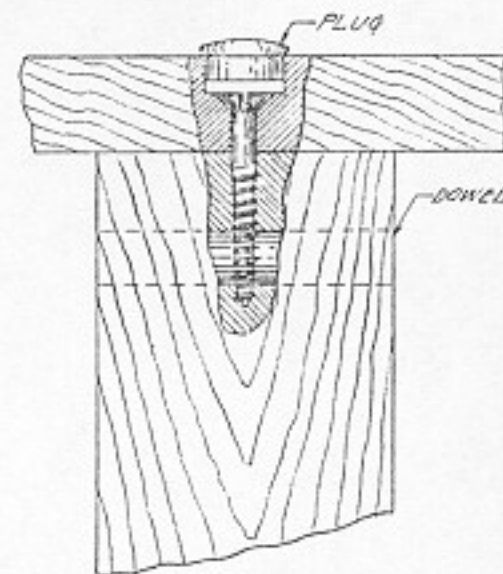

Fig. 292. Screw in end wood passing through dowel. Screw set below surface and hole plugged.
9. When dry, the plug is planed level with the surface. Plugs with rounded heads may be obtained at hardware stores (Fig. 292).
10. Screws do not hold well in end wood, because they run in the same direction as the wood fibers. It is therefore best to avoid this type of butt joint unless a dowel is glued into the wood near the end. Driving the screws through this dowel strengthens the joint considerably (Fig. 292).